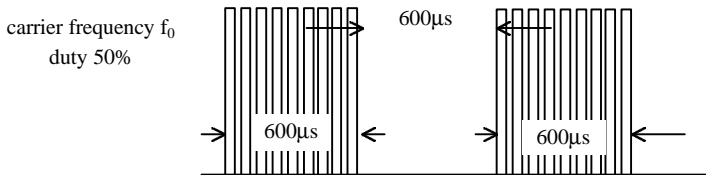

Fig 1. Burst Wave
- (1) Measuring place .....Indoor without extreme reflection of light.
- (2) Ambient light source... Detecting surface illumination shall be  $200 \pm 50$  Lux under ordinary hite fluorescense lamp of no high frequency lighting.
- (3) Standard transmitter ... Burst wave indicated in Fig 1. of standard transmitter shall be arranged to 50mVp-p under the measuring circuit specified in Fig 2.